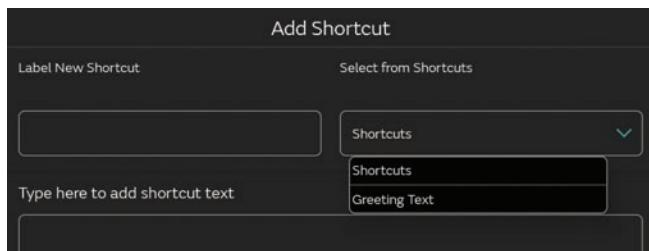

Figure 28. Append Shortcut
2. Tap the down arrow next to **Shortcuts** and select the Shortcut with the (+) to append (Figure 28) and tap **Save**.